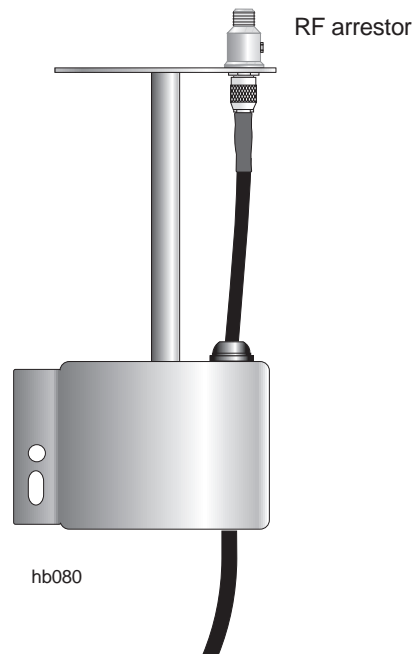

Figure 5-7 Connecting the IFL cable to the RF arrestor
4. Connect the cable to the RF arrestor, as shown in figure 5-7.